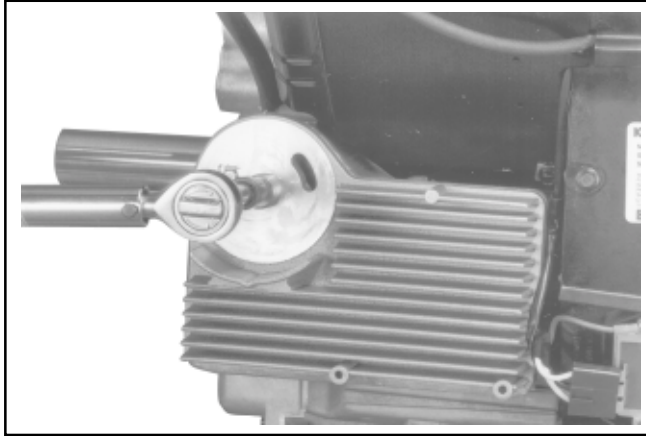

Figure 11-92. Torquing Oil Filter Nipple.
1. Reinstall the oil cooler on the engine (if equipped). Install a new gasket between the cooler and the closure plate. Torque nipple adapter to **27 N·m (20 ft. lb.)**. See Figure 11-92.